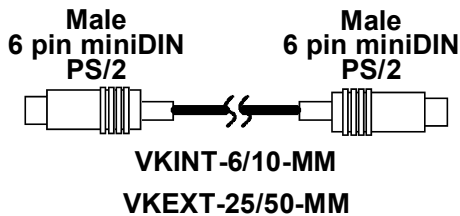

Fig. 2
5. Using (1) VVKINT-xx-MM or (2) VKINT-xx-MM or VKEXT-xx-MM cables (Fig. 2 & 3, required, not supplied), connect the keyboard and mouse ports of a PS/2 CPU to "PC 1 KEYBD" and "PC 1 MOUSE" ports on the rear of the switch.